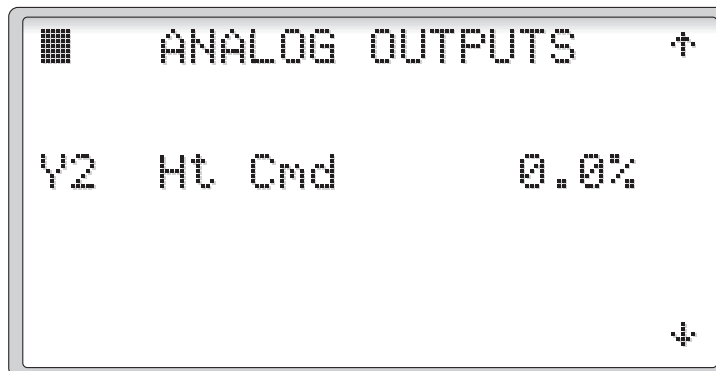

Figure 56
2.3.4.3.4 Analog Outputs (Figures 56 - 57)
This screen is provided for troubleshooting the control system. If the unit has been equipped with Modulating Heat, the Analog Outputs screen will look like Figure 56.